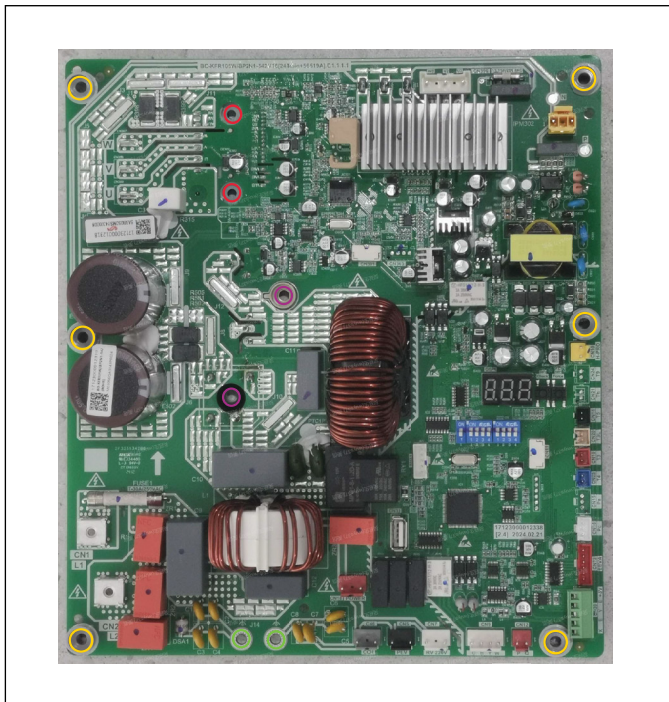

Figure 1
- Remove the 2 compressor wire plugs, power wire screws and ground wire screws (refer to Figure 1: items circled in blue).
There are 5 different types of screws; they should not be mixed. Different screw types are installed in different locations. Refer to color coding in Figure 1 for appropriate screw type and location.
- Remove the 2 ground screws on the board (refer to Figure 1: items circled in green).
- Remove the 2 screws on the board (refer to Figure 1: items circled in red).
- Remove the 2 screws on the board (refer to Figure 1: items circled in purple).
- Remove the 6 screws on the board (refer to Figure 1: items circled in yellow).
14. Fasten all screws (refer to Figure 1 for screw type and location).